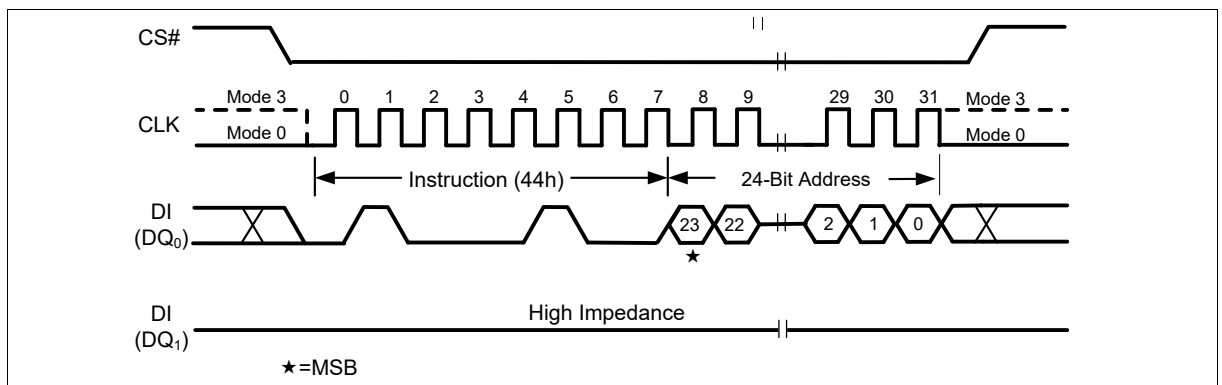

Figure 63 Erase Security Sector Instruction (SPI Mode only)
The Erase Security Sector instruction sequence is shown in Figure 63. The CS# pin must be driven high after the eighth bit of the last byte has been latched. If this is not done the instruction will not be executed. After CS# is driven high, the self-timed Erase Security Sector operation will commence for a time duration of t_{SE} (See "11.6_AC Electrical Characteristics"). While the Erase Security Sector cycle is in progress, the Read Status Register instruction may still be accessed for checking the status of the WIP bit. The WIP bit is a 1 during the erase cycle and becomes a 0 when the cycle is finished and the device is ready to accept other instructions again. After the Erase Security Sector cycle has finished the Write Enable Latch (WEL) bit in the Status Register is cleared to 0. The Security Sector Lock Bit (LB) in the Status Register-2 can be used to OTP protect the Security Sector. Once a lock bit is set to 1, the Security Sector will be permanently locked and Erase Security Sector instruction will be ignored.